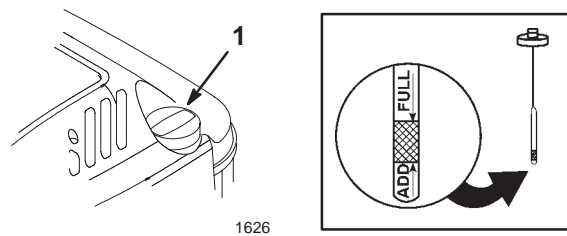

Figure 10
Before each use, ensure that the oil level is between the *Add* and the *Full* marks on the dipstick (Fig. 10).
2. Clean around the dipstick (Fig. 10).
6. Read the oil level on the dipstick (Fig. 10).